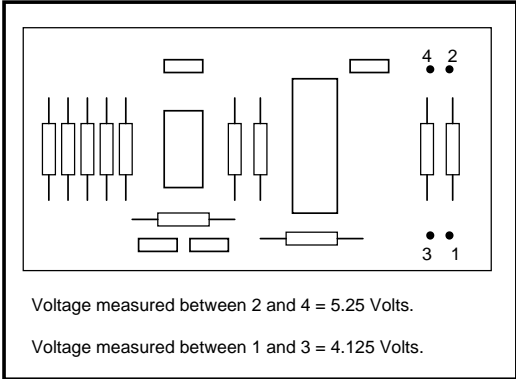

FIGURE 4.26 ANTI-TWO BLOCK BOARD
2. With a Digital Multimeter (DMM) set for DC Volts, check the voltage at the connections to the potentiometer located on the Anti-Two Block Board (see Figure 4.26). A red wire is attached to Connection 1; a black wire is attached to Connection 3.